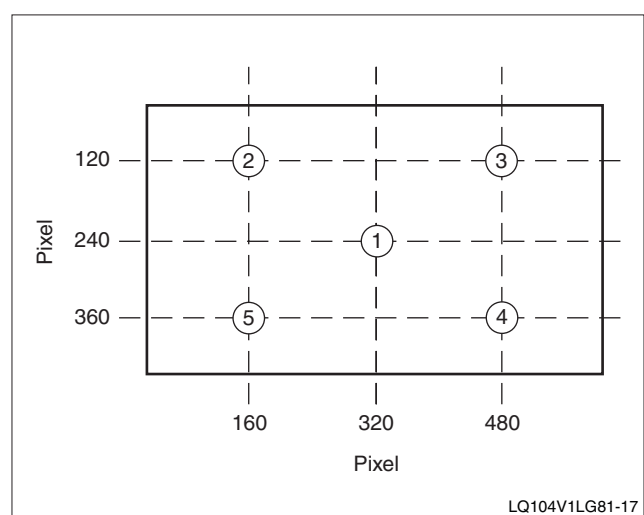

Figure 4. White Uniformity Measurement
- White Uniformity is defined as the delta of the maximum luminance of 5 points. See Figure 4.